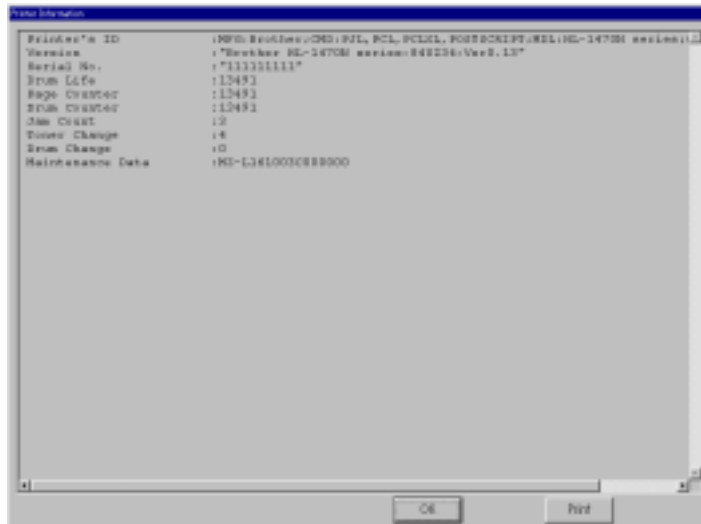

Fig.A-9
- (3) The dialog box shown at the right will appear and show the frequencies of drum unit change, toner cartridge change and paper jam etc..(see Fig.A-9)
- (4) Click the **OK** button.